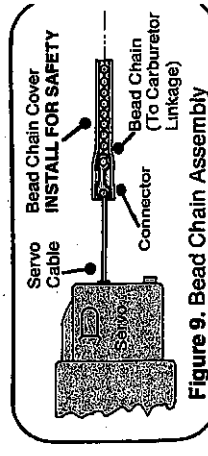

Figure 9. Bead Chain Assembly
(f) Attach one end of bead chain to ball of servo cable with connector provided. Spread connector slightly to aid assembly (Fig. 9).
- (l) Cut a length of plastic bead chain cover, sufficient in length to cover the entire bead chain and connectors, but leave the servo cable uncovered (Fig. 9).